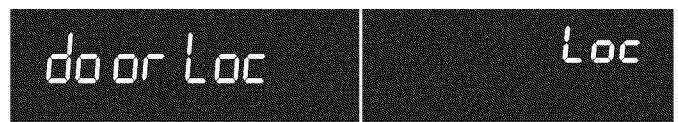

Figure 15: Display showing door locking and in locked position
2. Press and hold  for 3 seconds. (Figure 15) **door Loc** will appear in the display. The motor driven door latch mechanism will begin locking the oven door automatically. Do not open the oven door. Allow about 15 seconds for the oven door to completely lock. Once door is locked, **Loc** will appear in the display.